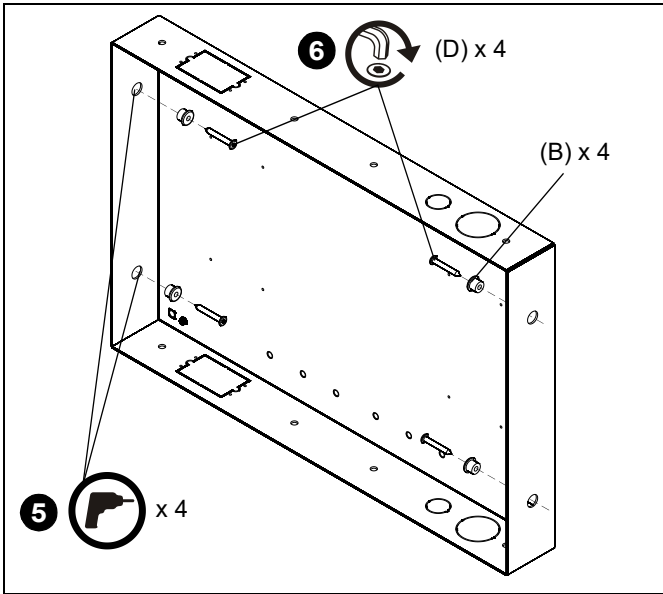

Figure 5
6. Attach the PAC501 (A) to side studs using four M7 x 50mm Allen head connector screws (D) and mounting spacers (B) using an M4 Allen head drill bit (E). (See Figure 5)